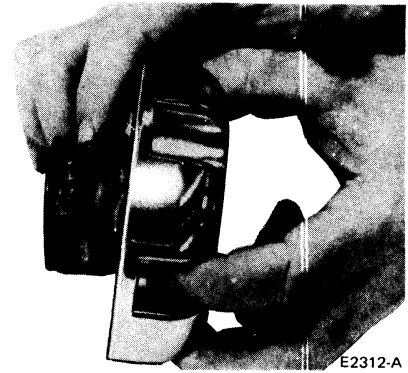

FIG. 20 Grease Application
11. Turn actuator knob to lock position. Apply a small amount of Moly XL hi-speed grease to both grooves of the cam as shown (Fig. 20).